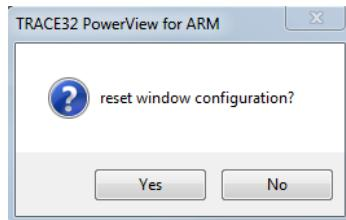

Figure 5.46: Reset Trace32 windows dialog
7. When the flashing process has finished, the next dialog asks whether you want to keep the current Trace32 window configuration or reset to a default configuration (Figure 5.46 on the next page).